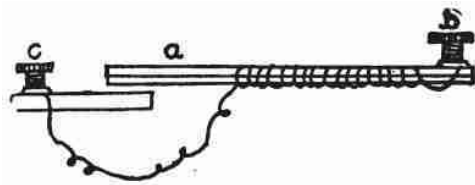

Fig. 85
16. *Electric Flasher* (Fig. 84).—For automatically flashing electric lights. The one which we examined was constructed according to the plan shown in Fig. 85. The lighting circuit is brought to the binding posts *b* and *c*. A small insulated wire of high resistance connects *b* and *c*, being wound around the metal bar *a b*. The resistance of this wire, when added to that of lamps, permits not more than one fifth of an ampere to pass, and this warms the wire slightly. The bar *a b* is composed of two strips of metal, brass above and iron below. Heat expands brass more than iron. The result is that when the current is turned on, the bar begins to curve downward until presently it touches the metal base of *c*. Then the full current required to light the lamps which are in circuit passes. While the circuit is closed through the large metal strips not enough passes through the fine wire to warm it. On cooling, *a b* curves